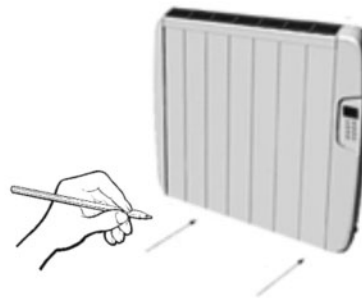

Fig. 10
6. When the heater is hung in place, make two marks on the wall where the two brackets (A) will be fixed to ensure the heater is fixed to the wall. (Figure 10).